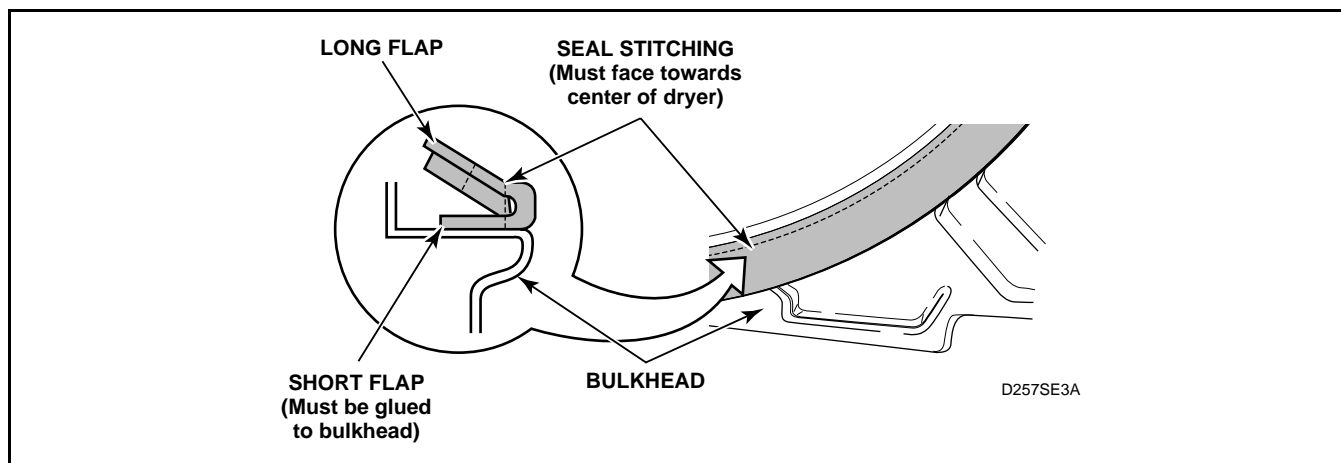

Figure 34
i. Front Cylinder Seal (*Figure 34*)
- (1) The stitching on the seal must face towards the dryer center. See *Figure 34*.
- (2) The short flap, shown in *Figure 34*, must be glued to the bulkhead and the long flap left loose.